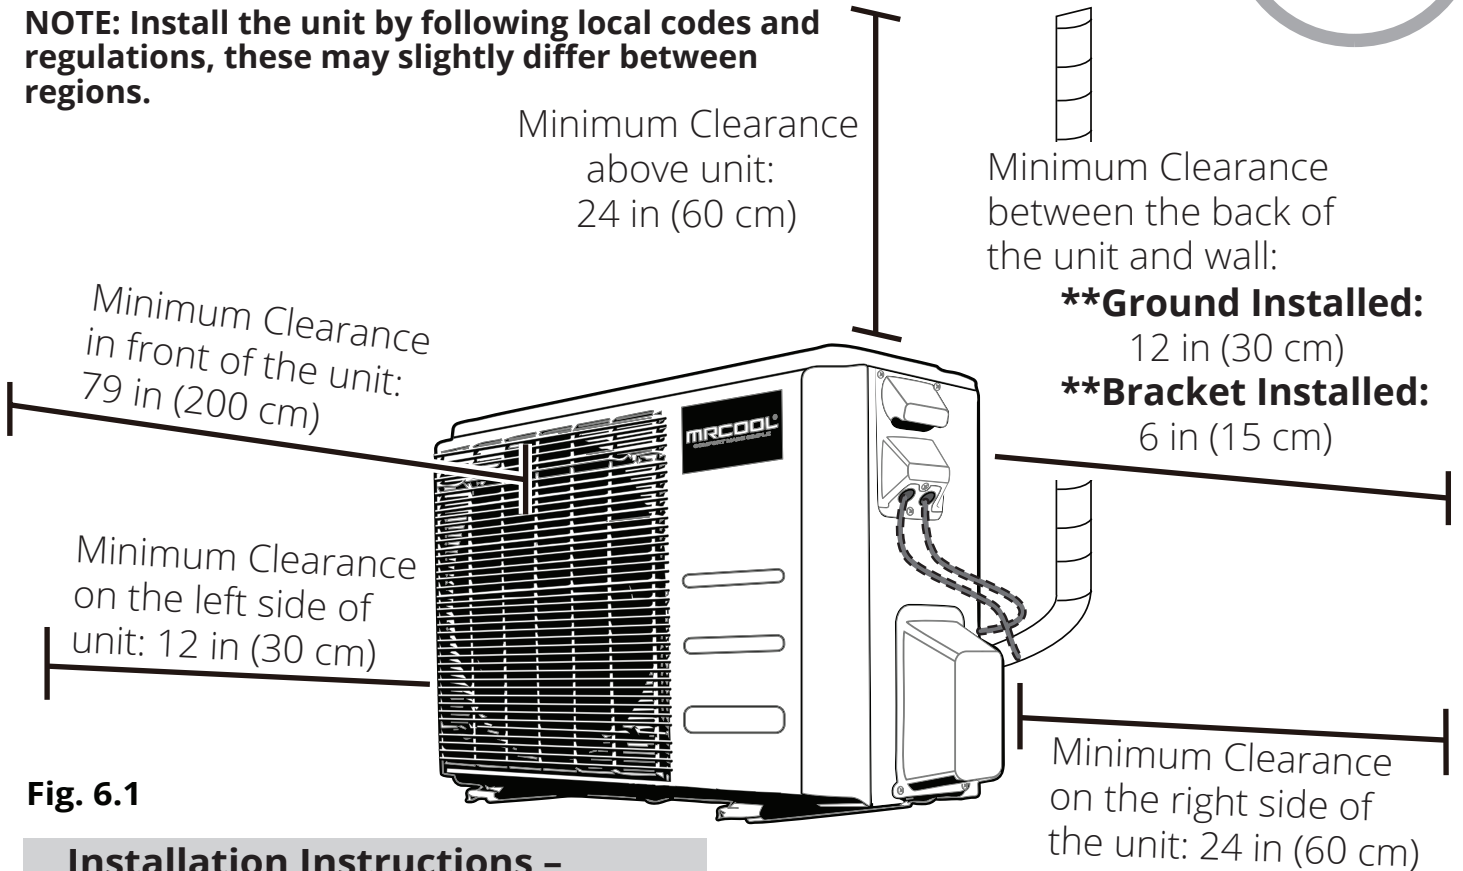

Fig. 6.1
- ☑ Meets all spatial requirements shown in the illustration above (Fig. 6.1)